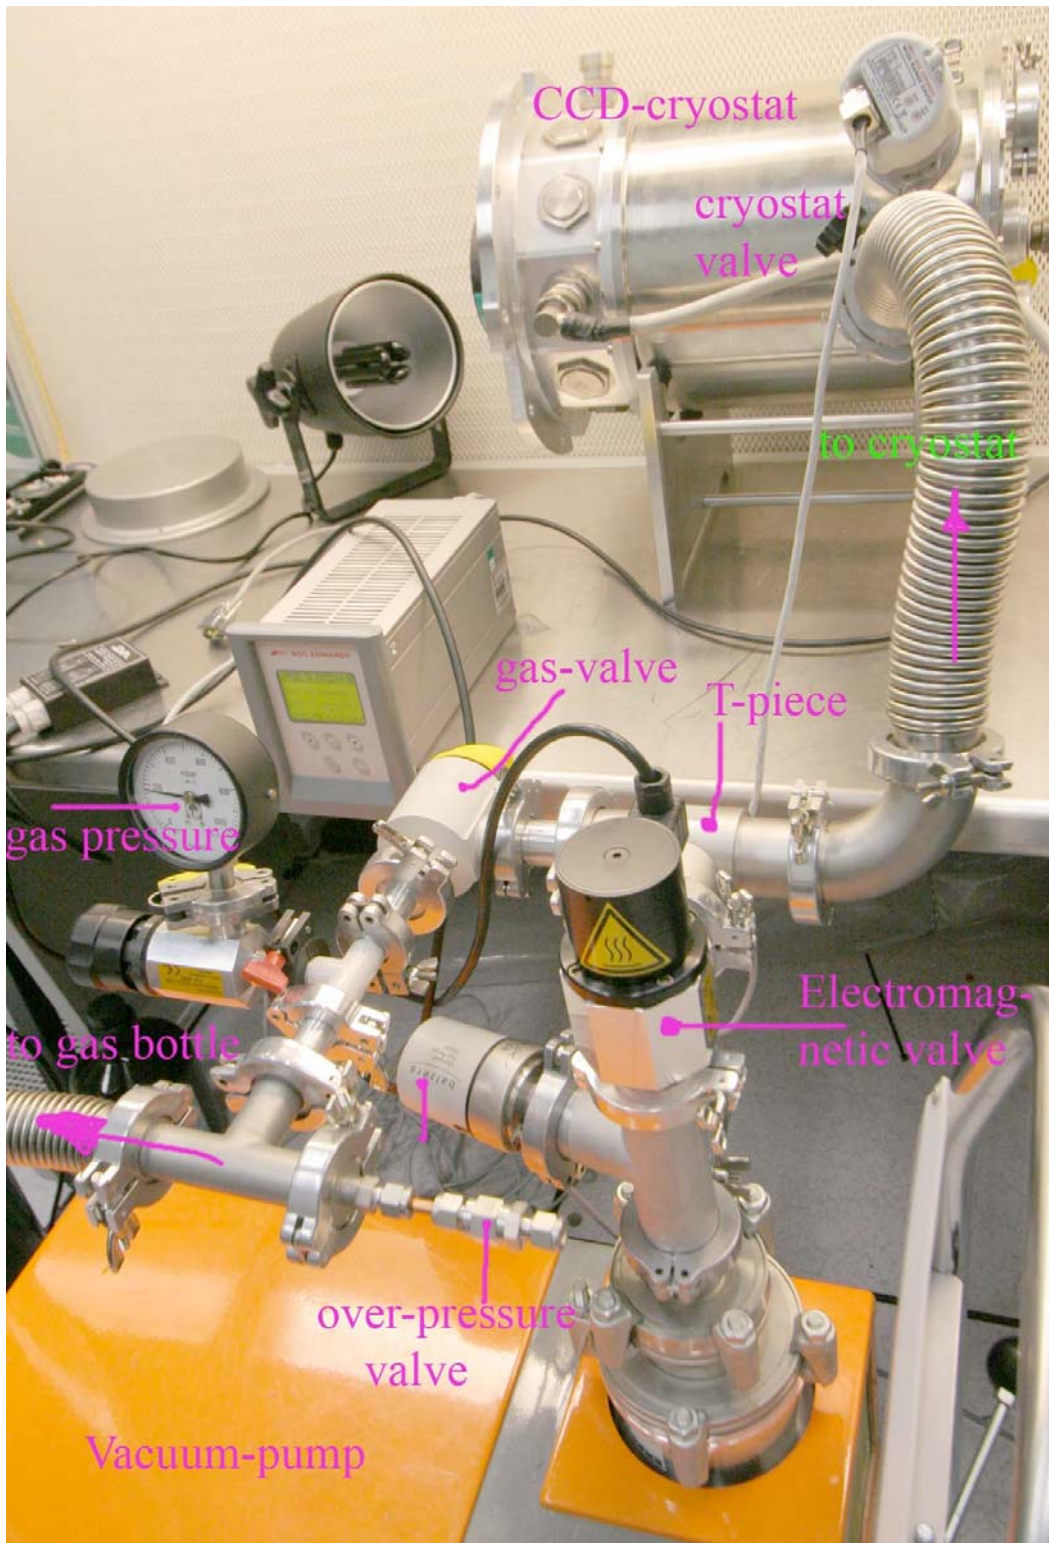

Figure 2: Vacuum installation
Before the cryostat can be pumped the following vacuum installation should be done (see Figure 2):
The end of the pressure reducer has an adapter to the KF25 vacuum line and is connected to the pipe arrangement as seen in Figure 2.
Close the gas valve (Figure 2) and open first the valve of the gas bottle. Then open carefully the valve of the pressure reducer until gas is coming out at the over pressure valve (see Figure 2).
2. Open the valve of the pressure reducer carefully until you reach a value of approximately 800 mBar at the analogue manometer (see Figure 2).